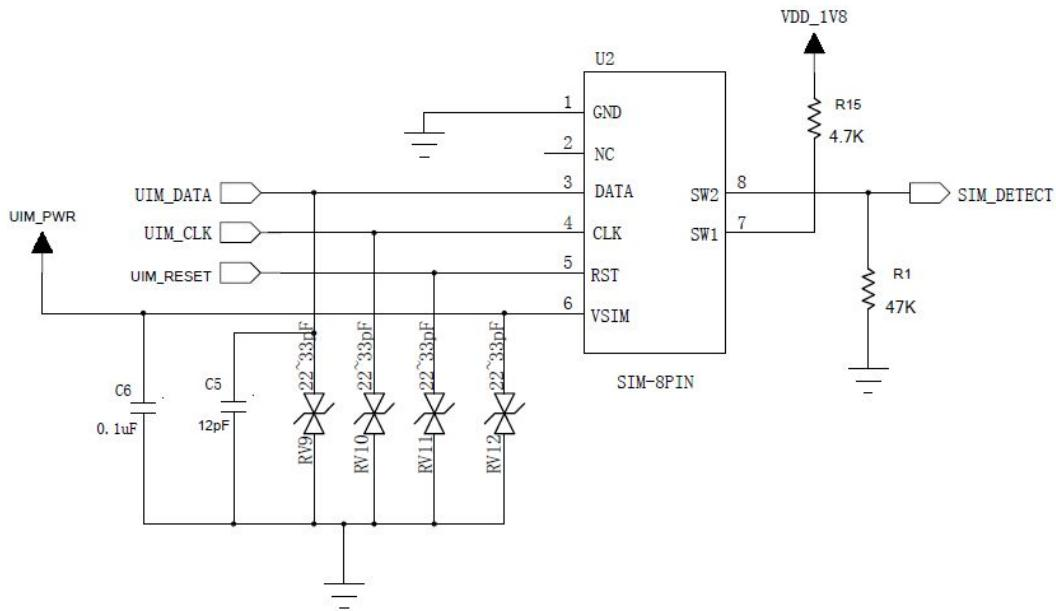

Figure 5-8 Reference Design of “Normally Open” SIM Card Interface
- For “Normal opened” SIM card, as shown in the figure 5-8, SIM_DETECT signal line is connected to U2’s Pin8 (SW2), and Pin7 (SW1) will be pulled up 4.7K resistor . When the SIM card is not inserted, SW2 and SW1 will be disconnected, then SW2 will be at low level. When the SIM card is inserted, SW2 and SW1 will short circuit, SIM_DETECT level will be pulled up.